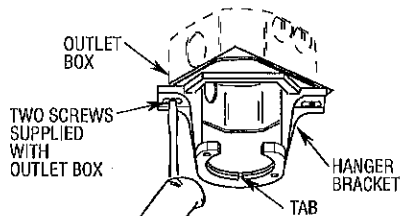
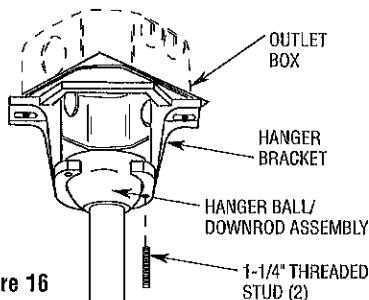

Figure 15
Figure 16
- 1. Securely attach the hanger bracket to the outlet box using the two screws supplied with the outlet box (Figure 15).
- 2. Carefully lift the fan and seat the hanger ball/downrod assembly on the hanger bracket that was just attached to the outlet box (Figure 16). Be sure the groove in the ball is lined up with the tab on the hanger bracket (Figure 15).